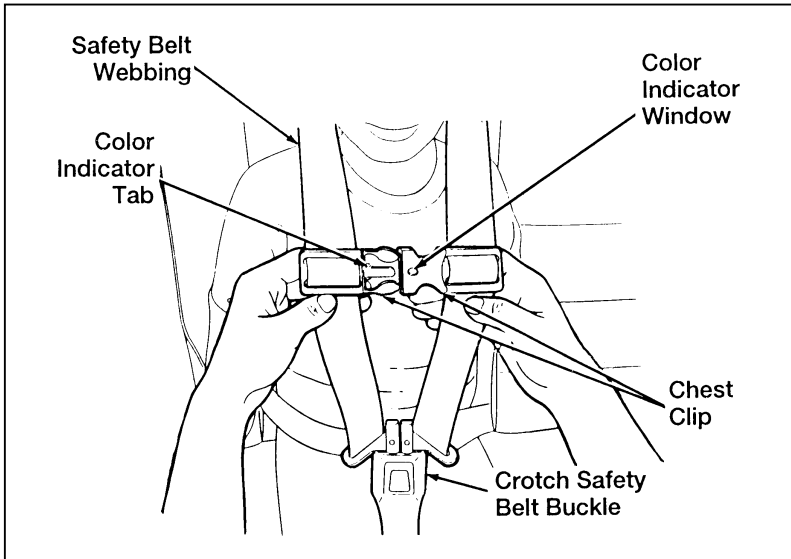

Figure 10
9. Fasten both halves of the chest clip below the child's shoulders and adjust the clip (up or down) to comfortably hold the shoulder belts in place on the child's chest. The indicator on the chest clip will show green when the clip is latched. (The purpose of this clip is to position the shoulder belts correctly on the child's shoulders.) The clip can be easily pulled apart and is designed to pull apart during a collision. The clip will help keep the shoulder belts on the shoulders of a sleeping or squirming child. Refer to Figures 10 and 11.